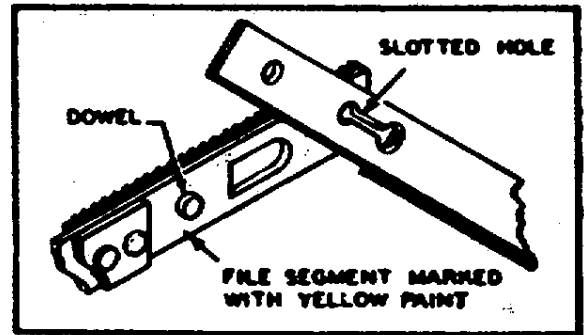

Fig. 24 - How to join the file band.
(1) With one end of the file band in each hand, (the yellow painted end in the left hand) hold the file ends at right angles with the filing surface up (fig. 24).
(2) Depress the tip of the spring steel band held in the right hand with the lock rivet of the yellow segment held in the left hand.
(3) Allow the rivet head to slip into the slotted hole. Slide the rivet head into the small end of the slot.
(4) Straighten the file band, allowing the spring steel end to snap over the dowel.
(5) Make sure the ends of the band are flush before running.